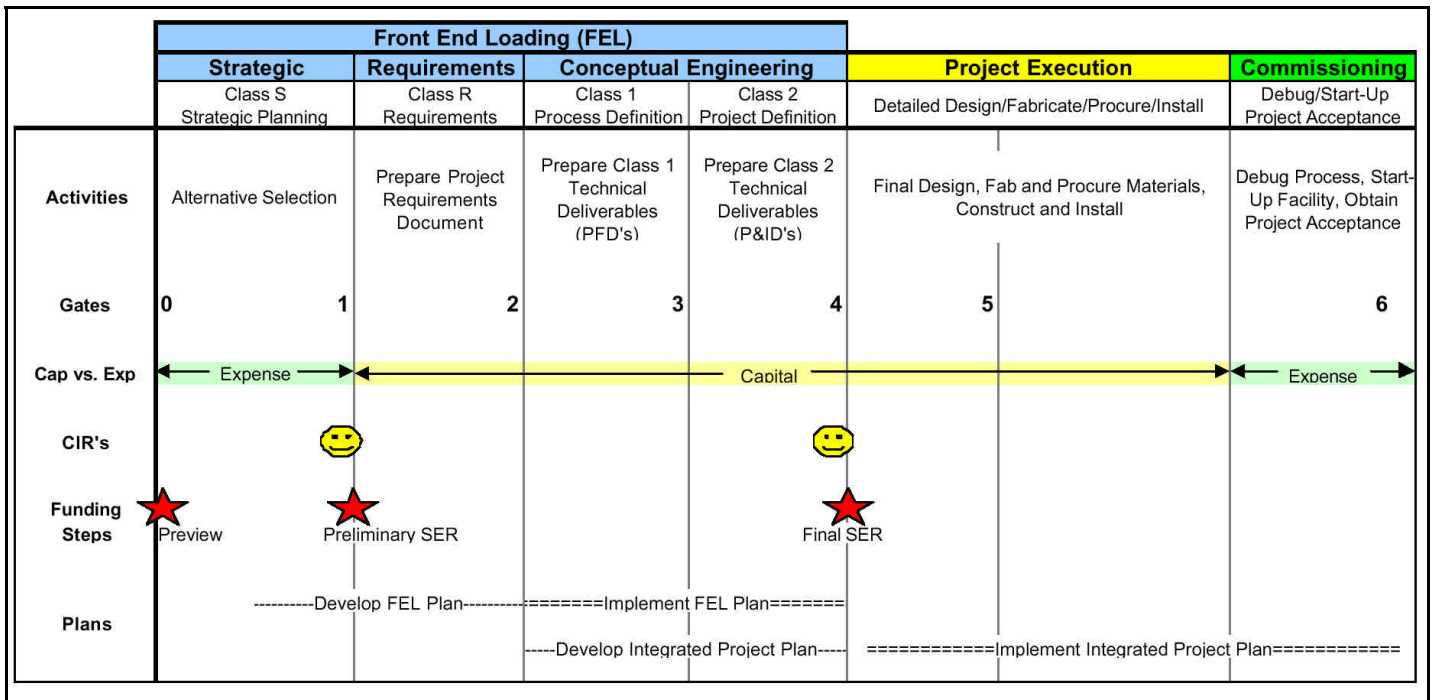

Figure 1. Kodak's Capital Delivery Process
The company’s capital project delivery process involves five (5) phases: strategic, requirements development, conceptual engineering, project execution, and commissioning. Interspersed within the project phases are seven gates. Gate 0 indicates the project launch of the strategic team, and the subsequent six gates (gate 1 through gate 6) involve specific points of project review and approval. The company’s capital delivery process is shown in Figure 1.